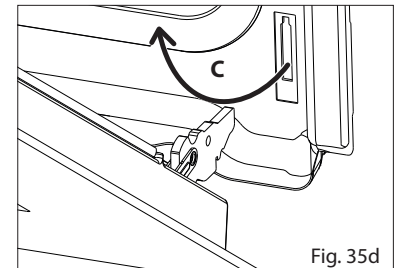

Fig. 35d
- Withdraw the hinge hooks from their location following arrow **C** (fig. 35d).